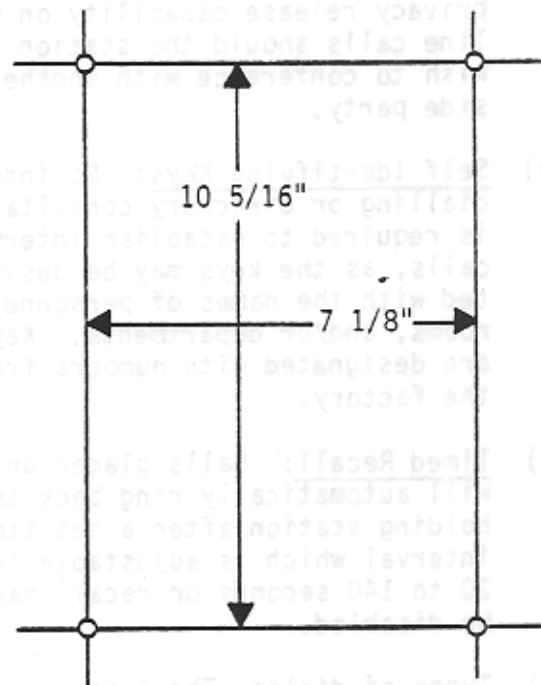

Figure 2
6.10 On the surface to which the power supply is to be mounted, locate the 4 points which correspond to the keyhole type mounting holes in the back panel of the power supply. Figure 2 provides the dimensions between mounting hole centers for the power supply.